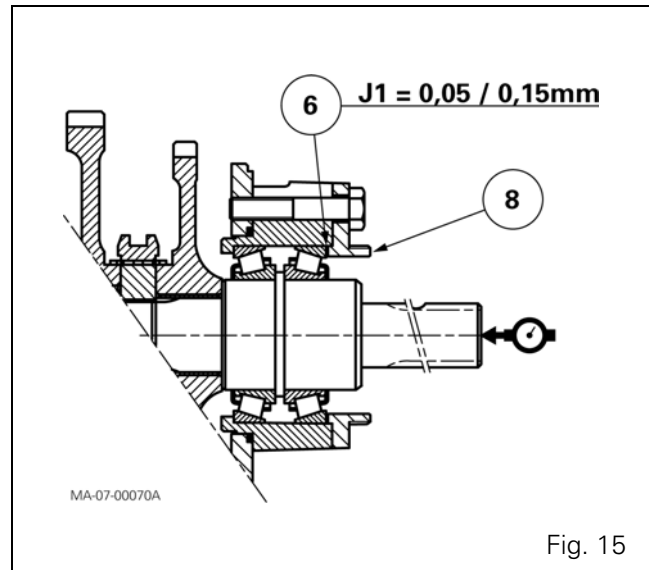

Fig. 15
71. Position the dial gauge feeler pin on the end of the shaft (Fig. 15).
75. Depending on the value read on the dial gauge, prepare a thickness of shim(s) (6) in order to obtain a final clearance of:
J1 = 0.05 to 0.15 mm (Fig. 15)